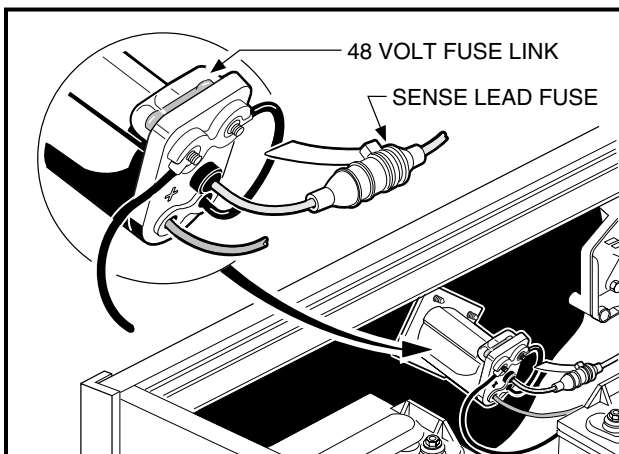

FIGURE 35
As an additional feature to protect the batteries and charging circuit from an overload, the electric vehicle is equipped with a receptacle fuse link (**Figure 35**). If the charger does not come on when the vehicle is placed on charge, visually inspect the fuse link. **See WARNING below.**
- NEVER MODIFY WIRING TO BY-PASS THE GREY SENSE LEAD FUSE (**FIGURE 35**).